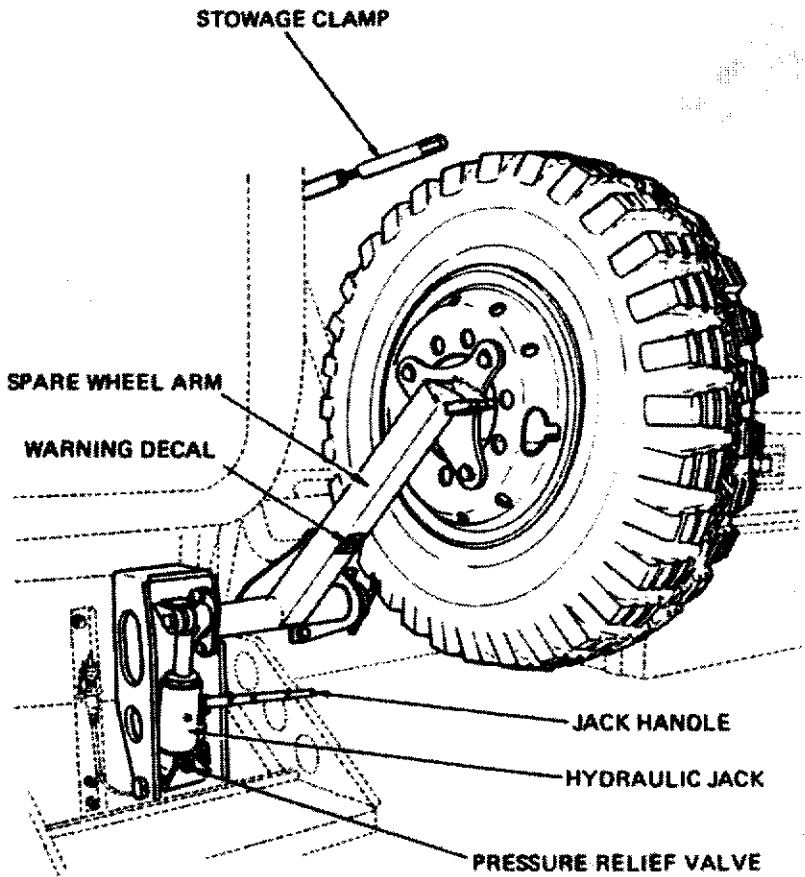

Fig. 16 Spare wheel storage and lowering assembly
### **121. Rifle clips and butt boxes (See fig. 16 items 4 and 5)**
### **122. Fire extinguisher (See fig. 16 item 2)**
### **126. Spare wheel stowage and lowering assembly (See fig. 16)**